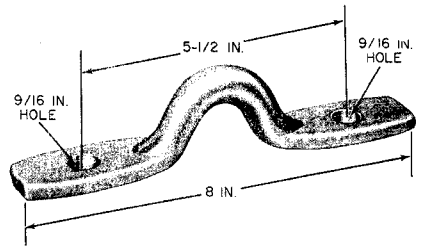

Fig. 2—U Wall Straps
2.02 U Wall Strap (Fig. 2): Used for dead ending 2.2M, 6M, and 6.6M strand where an S Guy Bolt cannot be placed through a wall and where a secure anchorage can be obtained by means of two anchoring devices.